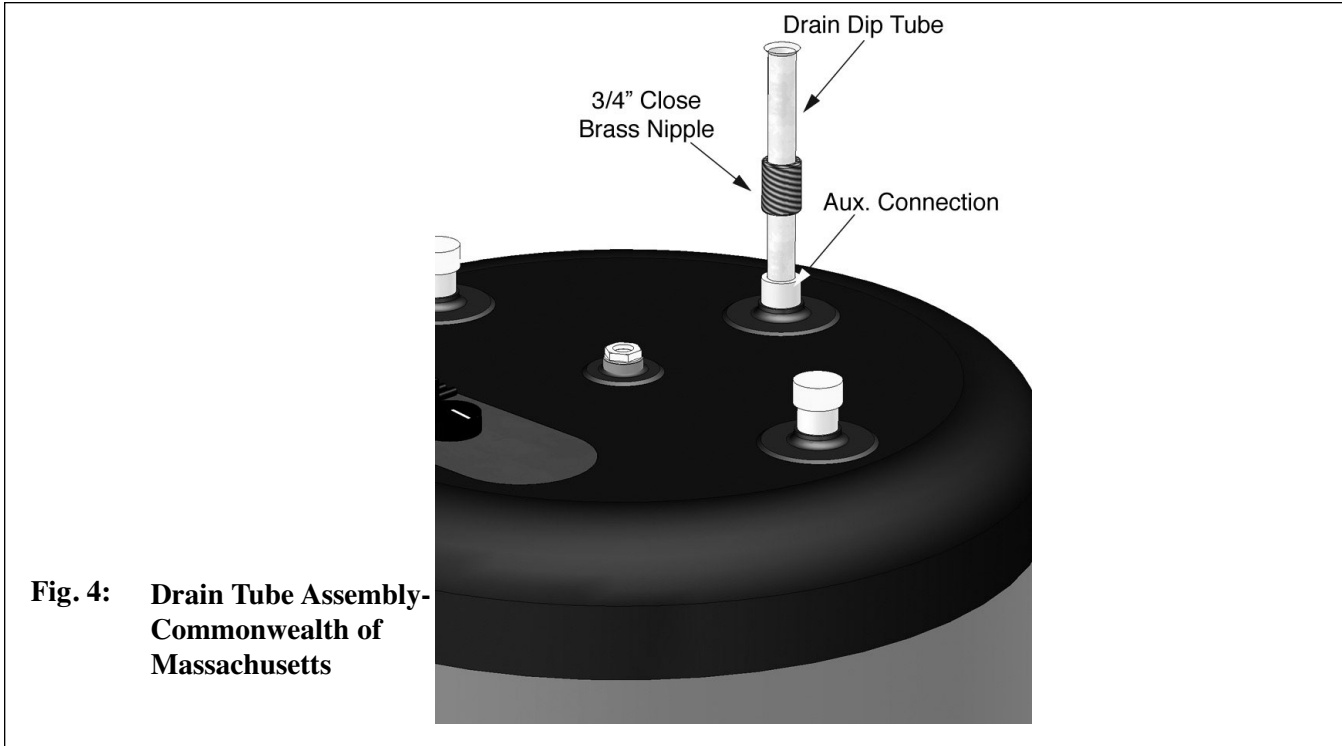

Fig. 4: Drain Tube Assembly-Commonwealth of Massachusetts
- Thread a 3/4" close nipple onto the Auxiliary connection and insert an open-end dip tube into the Auxiliary connection on top of water heater. As shown in Fig. 4 page 10.